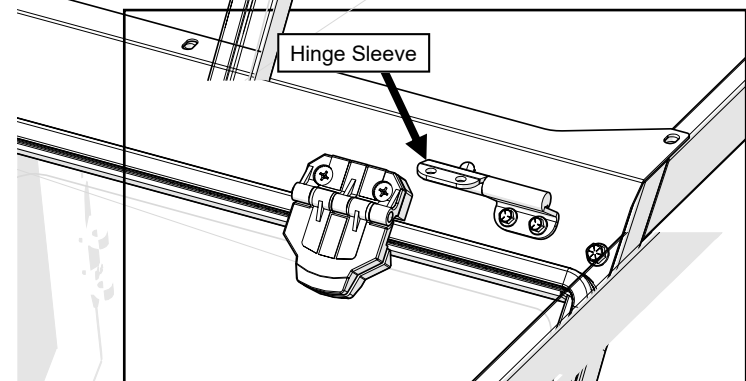

Fig. 2.3a (Left Hinge Sleeve Orientation)
- 2.3 Install the hinge sleeves onto the greased hinge pins, as shown in Figures 2.3a and b.